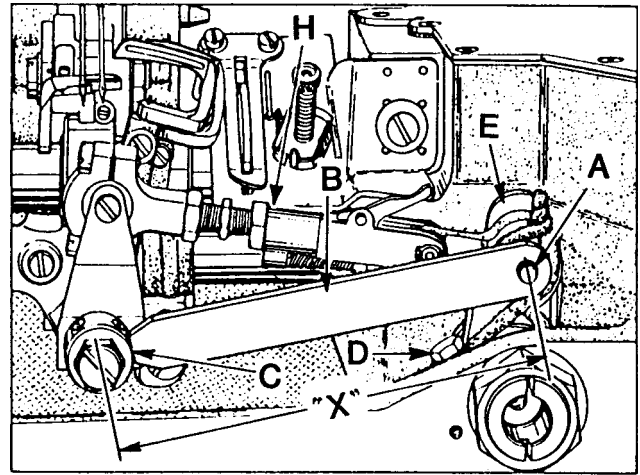
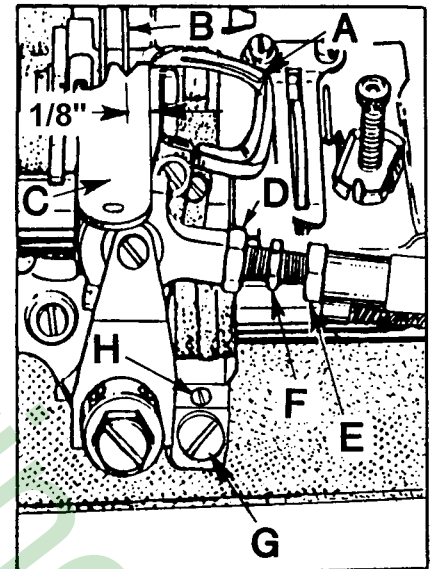

Fig. 6
Fig. 7
Turn handwheel in operating direction until looper is at the extreme right end of its travel. Check location of the center-line of right looper connecting rod bearing using gauge TT35. Place hole in gauge (B, Fig. 6) over threaded stud (A). The left end of gauge should locate against the RIGHT side of looper rocker cone (C). If adjustment is necessary, loosen clamp screw (D), reposition looper driver lever (E) as required and retighten screw (D). If a gauge is not available, the setting can be checked with a scale. "X" dimension is from centerline of stud (A) to centerline of cone (C) which should be $4 \frac{1}{16}$ inch (103.2mm).
CAUTION: After adjusting the looper gauge and looper avoid, there should be shake at both end points of the looper connecting rod while rotating handwheel a full 360° (H, Fig. 6). If bind occurs loosen nuts (D and E, Fig. 7) and reposition strap (H). Retighten nuts.
Insert a new needle, type and size as specified. Using the 1/8 inch (3.2mm) looper gauge, set the looper (A, Fig. 7) so the distance from the center of the needle (B) to the point of the looper is 1/8 inch (3.2mm), when the looper is at its farthest position to the right.
If adjustment is necessary, loosen lock screw (G, Fig. 7) and turn stop screw (H) as required. Turning stop screw clockwise sets the looper to the rear and turning it counterclockwise acts the reverse. Holding looper to the front while making this adjustment may prove helpful. Tighten lock screw when setting is obtained and recheck the adjustment.